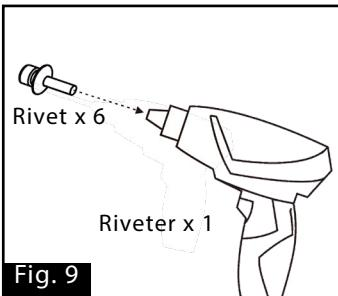

Fig. 9
1. Attach the brackets to the dishwasher: Top to Bottom - Left to Right (Fig. 9).